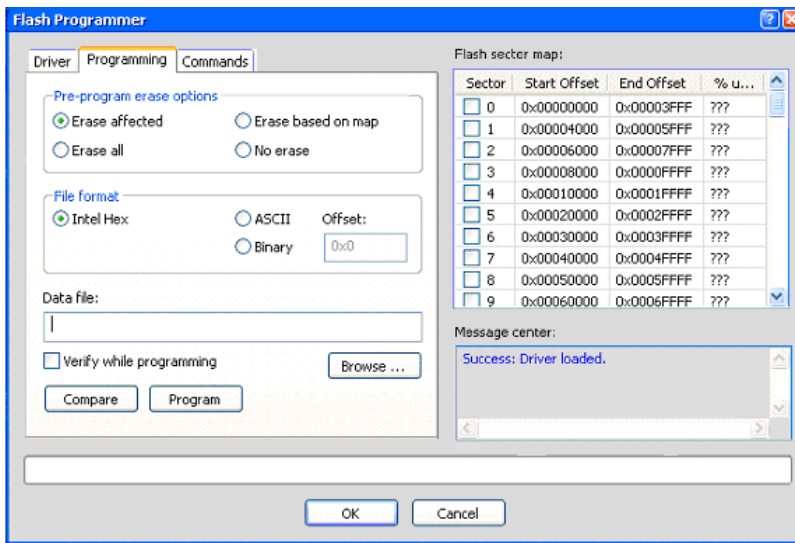

Figure 3-8. Flash Programmer Dialog Box – Programming Tab
4. Click the **Programming** tab (Figure 3-8).